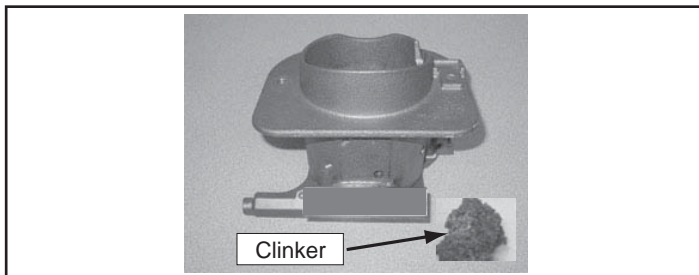

Figure 16.1 - Firepot with large clinker
- d. It may be necessary to use your firepot clean-out tool to chip away material that has built up on the sides of the firepot and to push out any clinkers. **Figure 16.1**